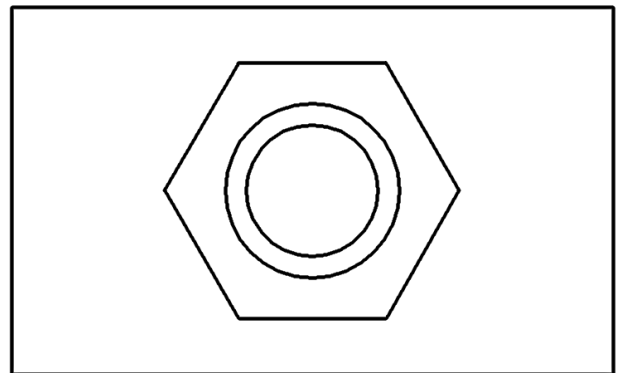

Fig. 1.48 Assembled Figures
5. Select the copy command  select the hexagon and paste as shown in Fig. 1.48.